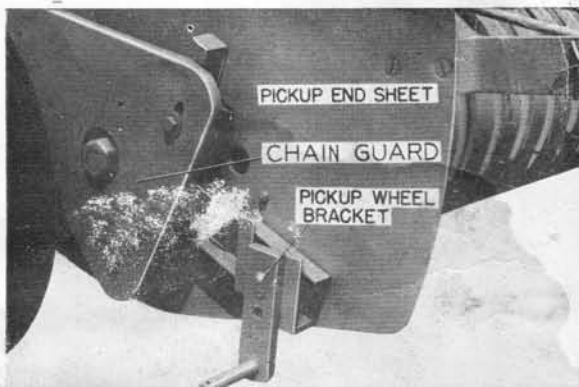

FIGURE 20
The pick-up wheel bracket is adjustable. See Figure 20. For normal conditions it should be adjusted so that the pick-up teeth clear the ground by about one inch. In extreme conditions, this clearance may be changed.
1. Remove the pickup drive chain guard, see figure 20, chain and idlers.